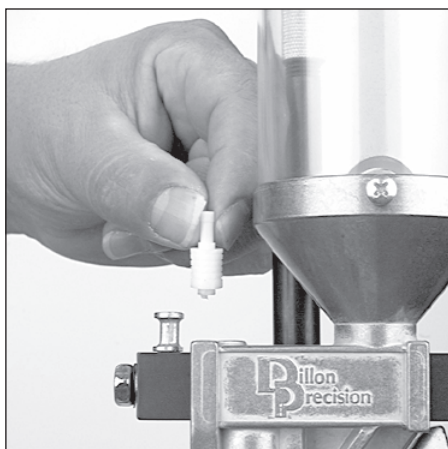

FIG 201
8. Re-install the white plastic retaining plug **FIG 201**:
a) Large powder bar – FIG 201 The retaining plug has a short end and a long end. If the large powder bar is installed, insert the short end of the retaining plug into the hole in the top of the powder measure body. Note: The short end is used to hold the plug for safe keeping.